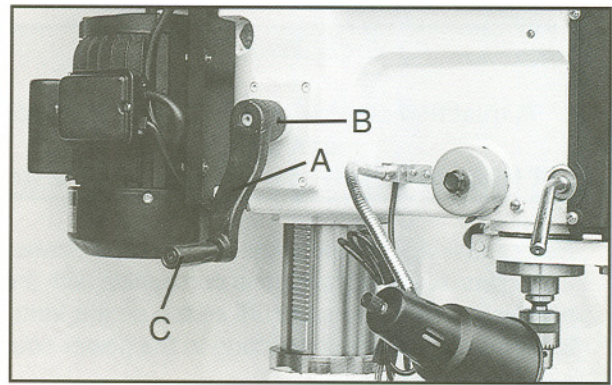

Fig. 2
3. Slide crank (A, Fig. 2) onto shaft and tighten set screw (B, Fig. 2). Be sure set screw seats on flat part of shaft.
4. Insert handle (C, Fig. 2) into crank and tighten.